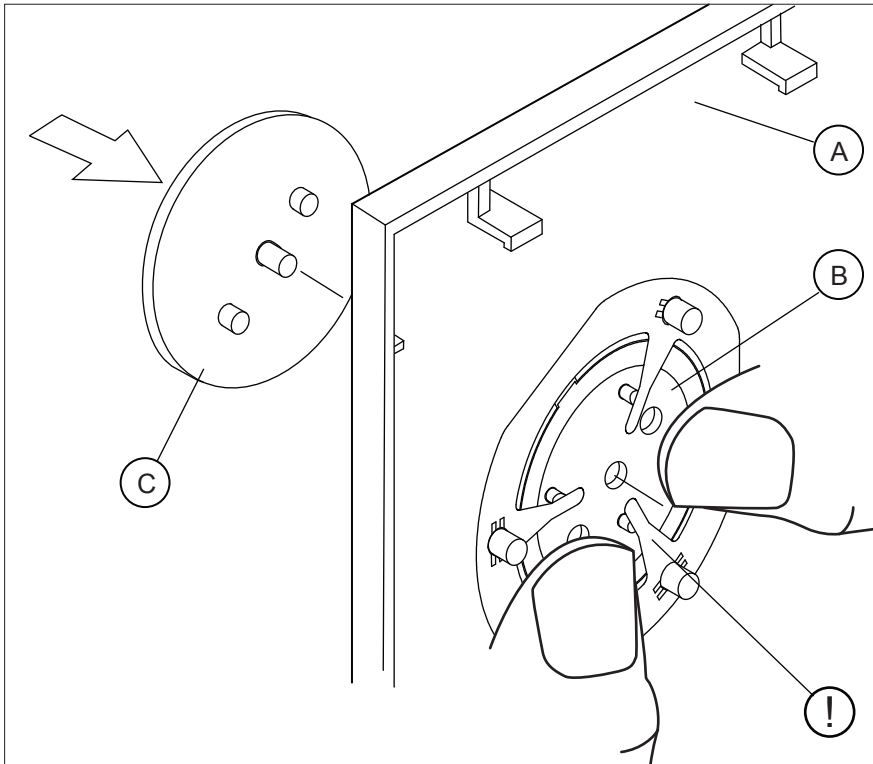

Figure 3. How to install a button in the fascia
To install a button in the front fascia, refer to Figure 3 and these instructions:
1. Examine the button seat (B) on the back side of the front fascia(A). Notice that there are three holes in a straight line.
Important: Avoid contact with the spring (!). Figure 3 shows you how to safely hold the button seat (B) when installing the button (C).
2. Remove a button (C) from the bag (choose between flat and curved buttons). Notice that the centre post is longer than the two retaining posts.
3. Hold the fascia (A) firmly in one hand with the back facing you.
4. Place the back side of the button (C) in the aperture on the front side of the fascia (A) and align the three button posts with the corresponding holes in the button seat (B).
5. Using only finger pressure, press on the button seat (B) with your thumbs. Apply pressure on the front of the button (C) face with your fingers.